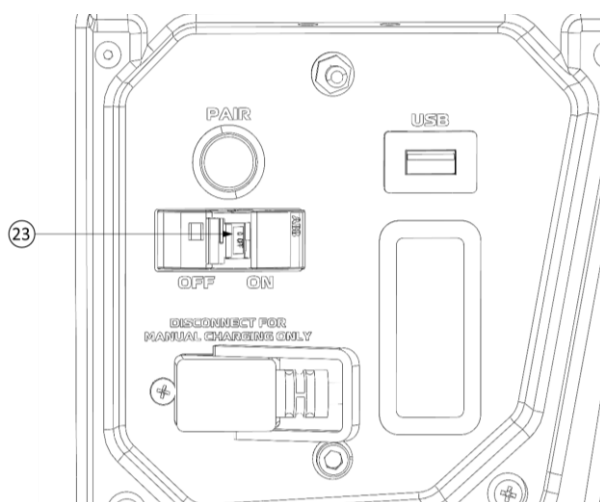

FIGURE 1-7
1. **Circuit Breaker (23)** (Refer to Fig. 1-7): This component serves as a safeguard against potential hazards. In the event of an overcurrent/overload, the circuit breaker will trip. This action is designed to protect the electrical circuit.